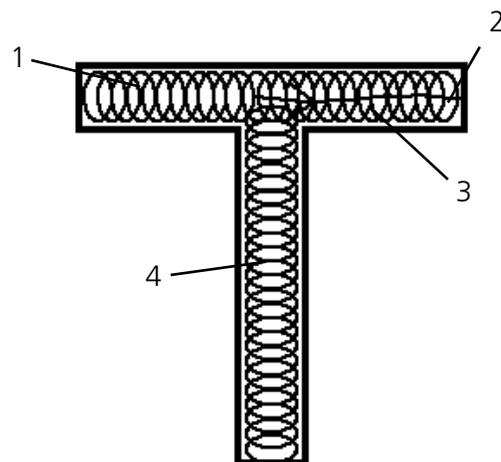

Figure 6-5
- Never lay coils over each other. For example, in a capital T, stitch coils from the upper left to the middle, walk stitch out to the upper right extreme, then come back to the middle again with the coil stitching and finish stitching coils down the middle of the body (see Figure 6-5).